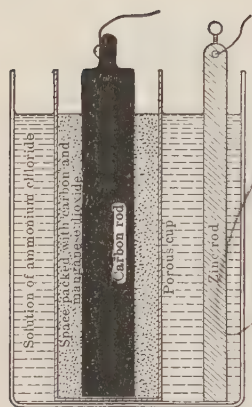

FIGURE 447. — LECLANCHÉ CELL.
**302. Leclanché Cell.** — The electrodes in this cell (Figure 447) are zinc and carbon, and the electrolyte is ammonium chloride (sal ammoniac). The chemical action